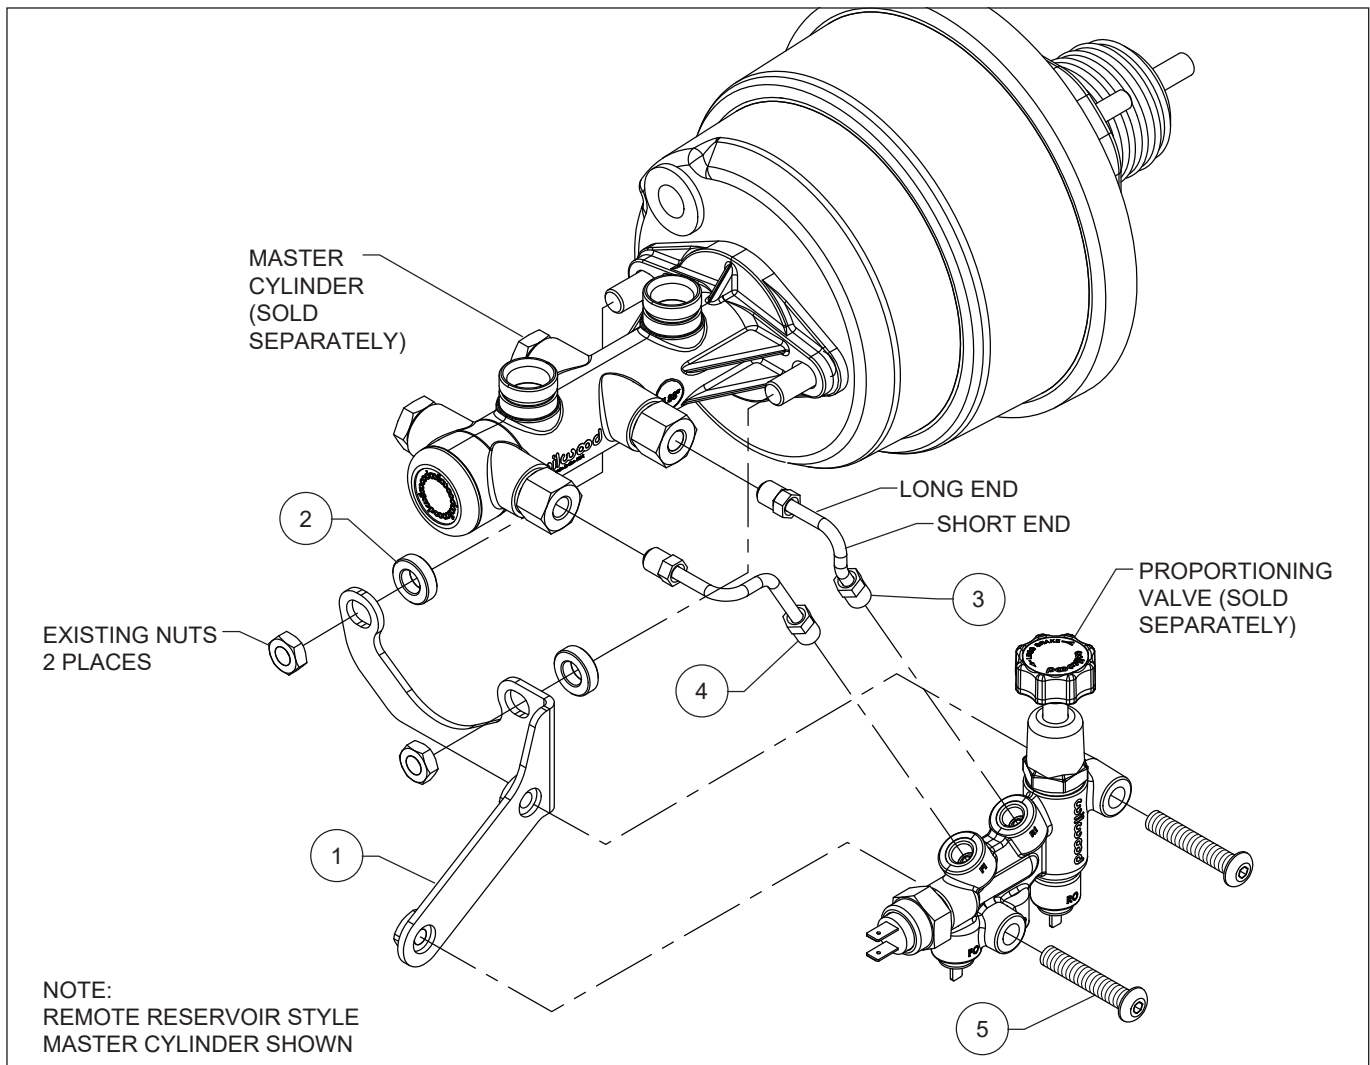

Figure 2. Proportioning Valve Bracket Kit Installation (Left Hand Shown, Right Hand Opposite)
- Mount the bracket (1) to the master cylinder using spacers (2) and existing nuts used to mount the master cylinder, as shown in Figure 2. Finger tighten.
- Install the short tube (3), "short end" into the fluid inlet "RI" in the proportioning valve, finger tighten. Install the long tube (4) into the "FI" fluid inlet, finger tighten.
- Connect the fluid tubes to the master cylinder, finger tighten. **NOTE:** If connecting to a previously installed master cylinder, be sure to plug the fluid inlets immediately when disconnecting the existing fluid lines and use a container to catch any fluid that may leak. Mount the proportioning valve to the bracket (1) using bolts (5), finger tighten. Check to be sure that everything fits and the tubes do not bind.